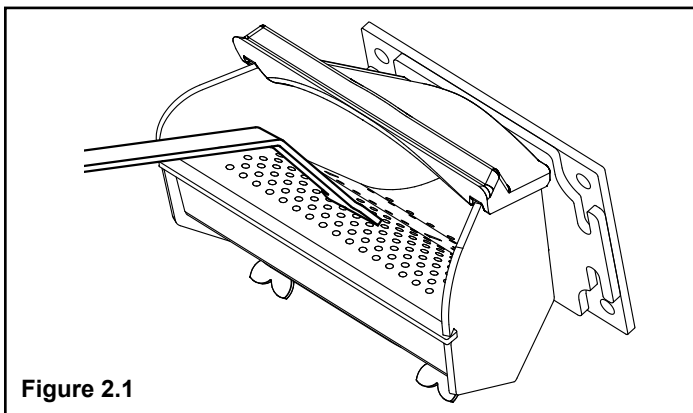

Figure 2.1
- Scrape the top grate and sides of the burn pot down to auger tube Figure 2.1. It is not necessary to completely remove all material from the burn pot. The excess will be pushed out during the next use.